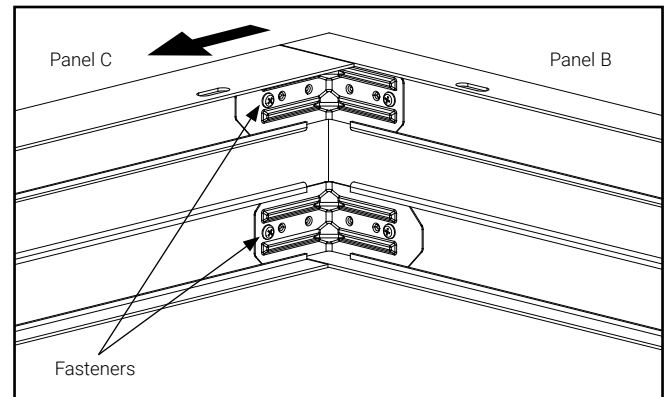

Figure 2.
4. Join 3 panels together (parts B and C). Be sure panels B and C are square (90-degree) or perpendicular to each other. Secure brackets to panel C with fasteners. See (Figure 2).